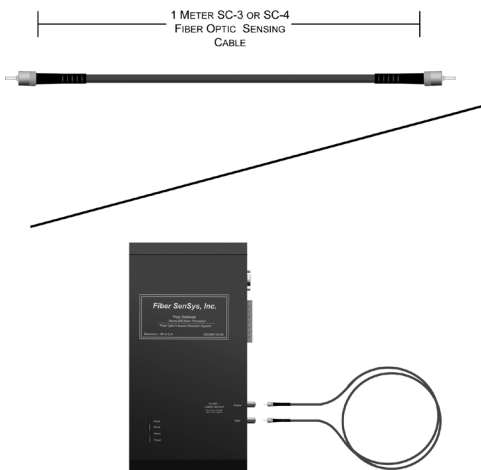

Figure 2-1: Using a Loopback Cable for testing is more convenient than using a full-length cable
3. Test the loopback cable by connecting it to the optical connectors of the known-good APU as shown in Figure 2-1. There should be no fault or alarm indicators illuminated with the cable properly connected